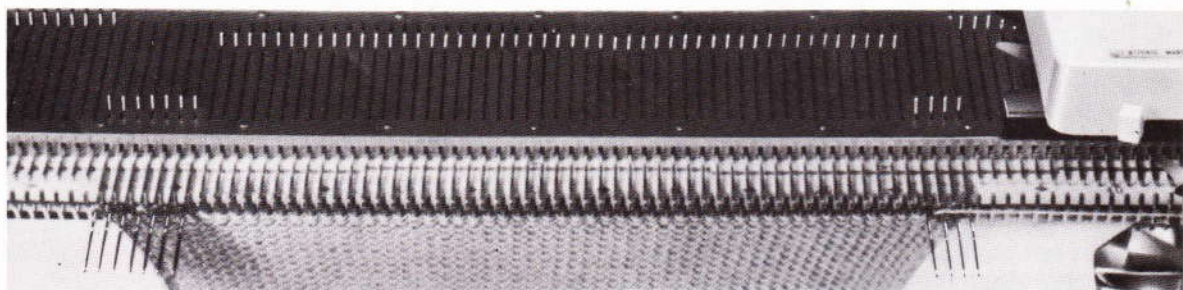

Fig. 199
4. Push 1 right-hand needle and 3 left-hand needles to F position (fig. 199). Knit 1 row.